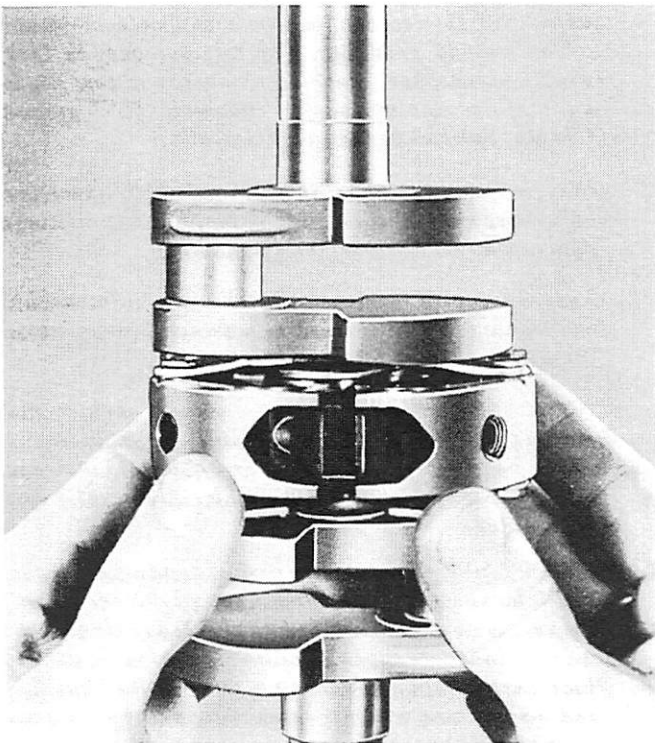

Figure 10. Installing Valve-Type Center Main on Crankshaft
2. Assemble center main bearing halves on crankshaft and tighten 2 Phillips head screws with Screwdriver (91-24279). (Figure 10)